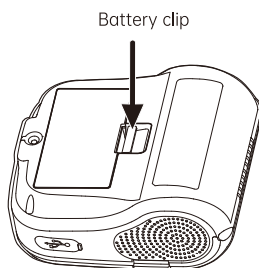

Figure 2
- (3) As shown in Figure 2 below, when removing the battery, release the battery latch and follow the reverse steps of battery installation.